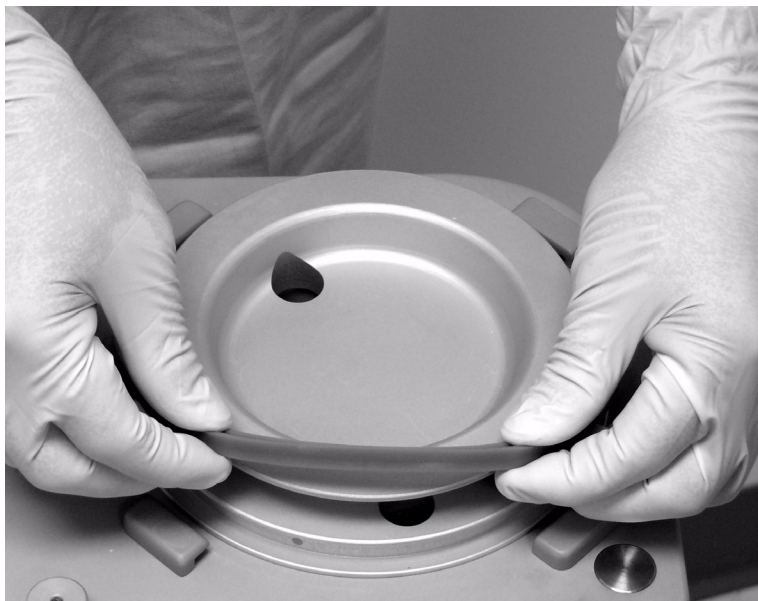

FIGURE 3-6 Removing the Bellows Dome O-ring
5. Remove the bellows dome O-ring as shown in FIGURE 3-6.